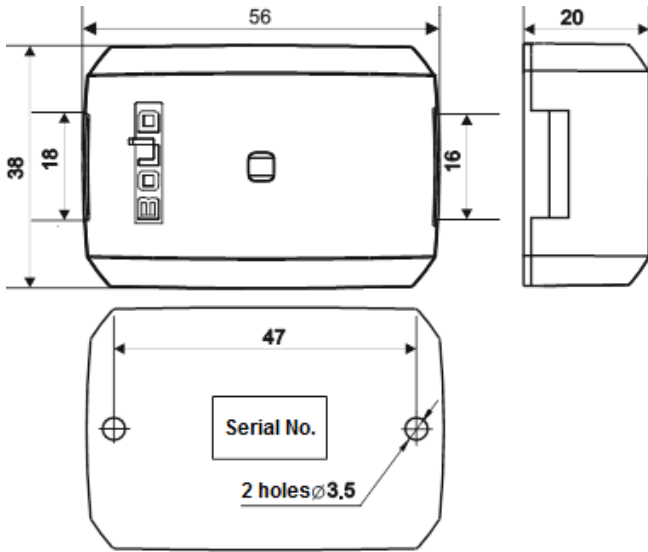

Figure 1. Overall and Mounting Dimensions of S2000-AR2 Rev.02
- 3.2 Apply the drilling template to the wall (Figure 1) and drill the holes.